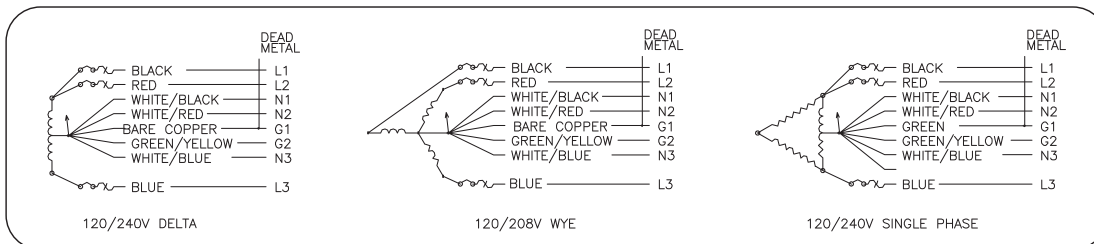

Figure 5 - Power Outlet Schematic
11. Reference Figure 5 for power schematic.